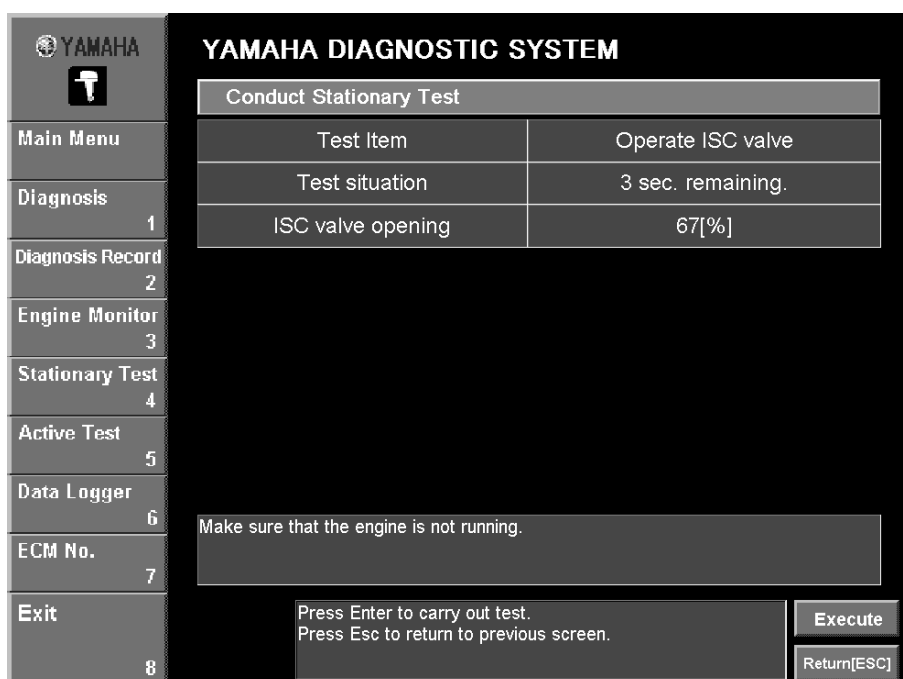

Fig. 41
2. Click the **Execute** button or press the Enter key on your keyboard. (Fig. 41)